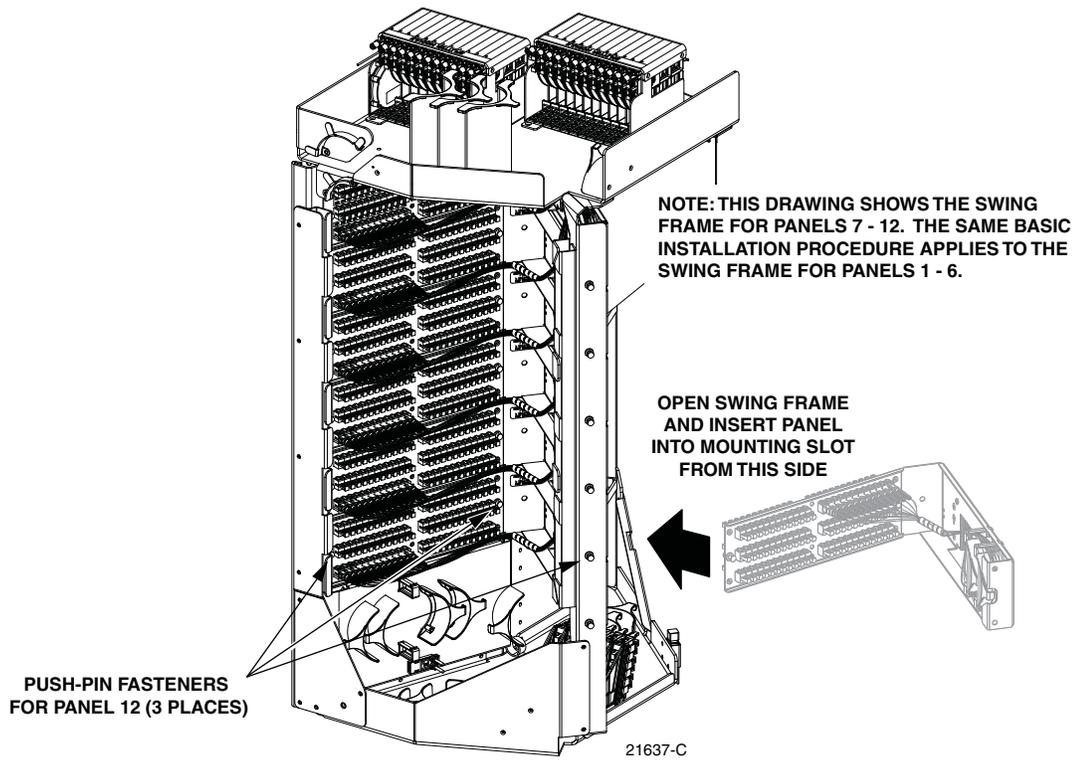

Figure 24. Inserting Distribution Panel into Swing Frame Mounting Slot - Typical
13. Open swing frame and insert the distribution panel into the selected mounting slot from the side as shown in Figure 24. Use the three plastic push pins provided to secure the distribution panel to the rear side of the swing frame.